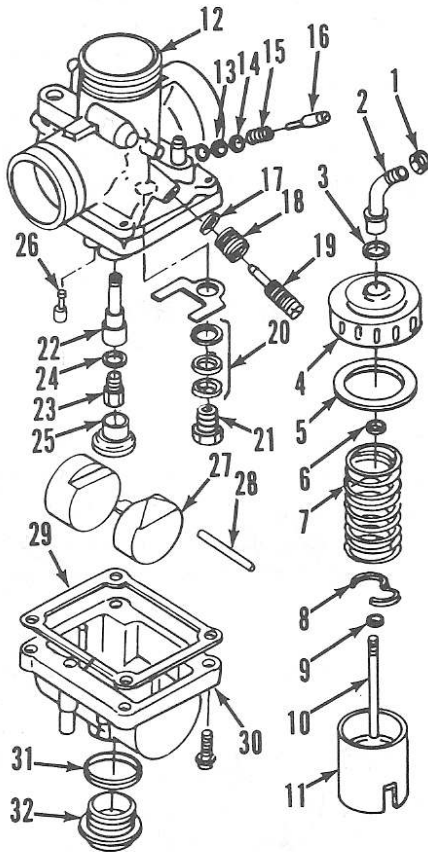

Fig. Y4-7—Typical exploded view of VM type Mikuni carburetor.
Refer to Fig. Y4-7 when overhauling carburetor. Note that jet needle clip (9) should be in third groove from top. Refer to CONDENSED SERVICE DATA and following tables for carburetor specifications.